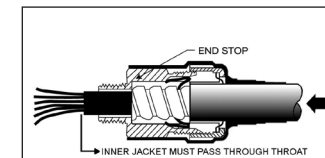

Figure 4
4. Feed cable through gland nut opening and push until cable armor hits end stop (Figure 4).